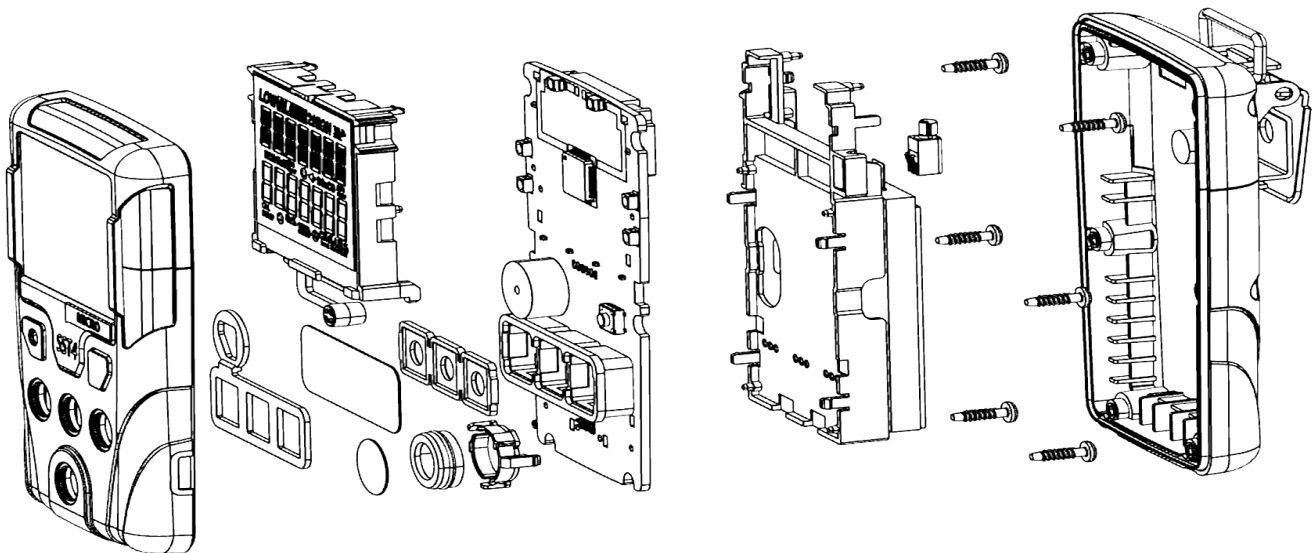
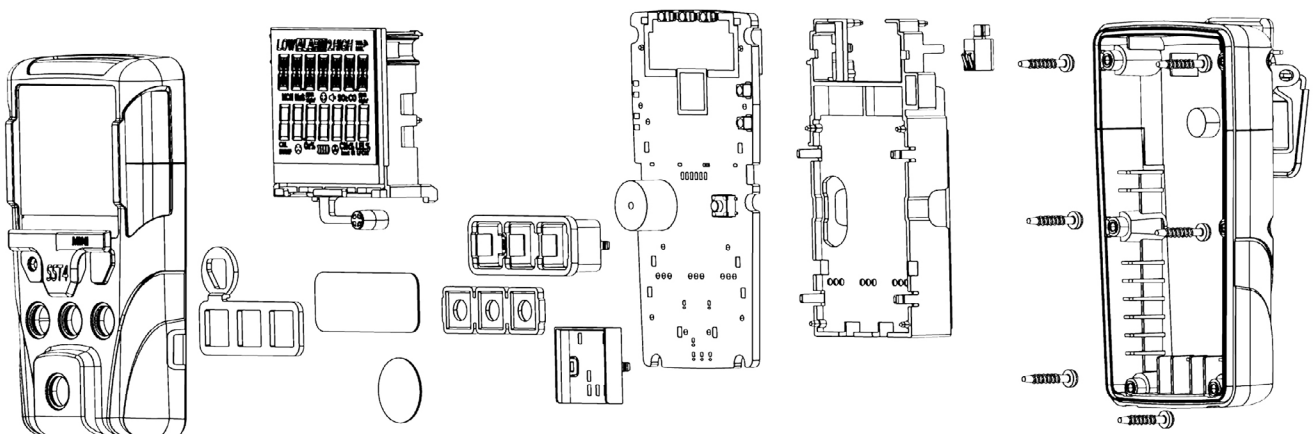
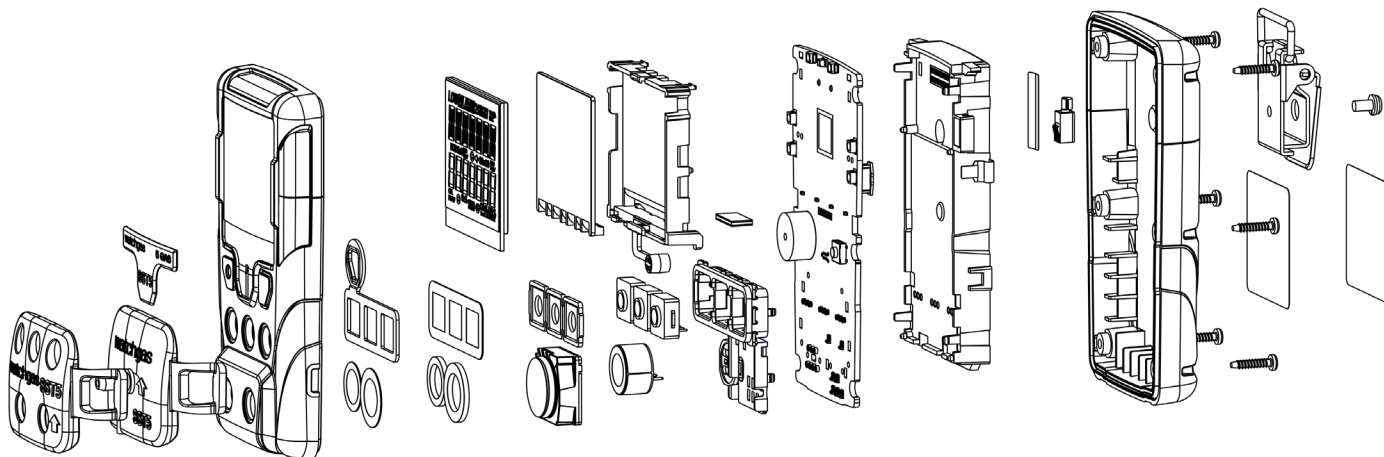

Figure 11. Replacing a Sensor or Sensor Filter for the SST4 Micro
Figure 12. Replacing a Sensor or Sensor Filter for the SST4 Mini
Figure 13. Replacing a Sensor or Sensor Filter for the SST5
- Insert the new sensor(s). For sensor positioning, refer to **Figure 11, Figure 12, and Figure 13**.